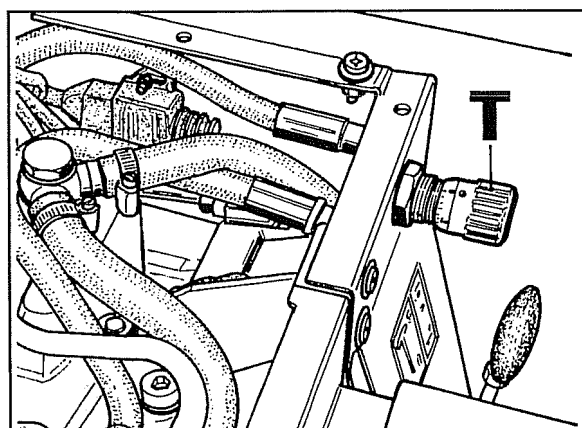
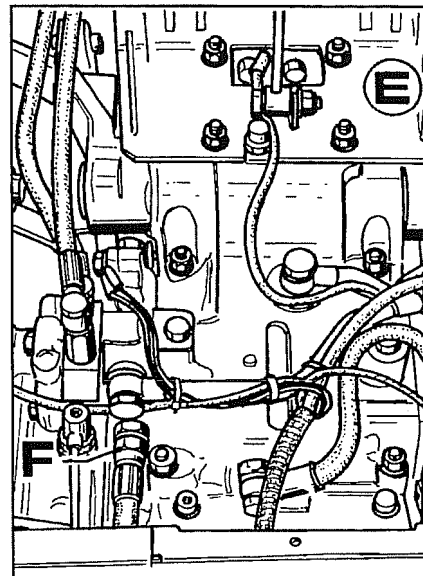

Fig. 9
Fig. 8
4. Remove the seat mounting **E** Fig. 8, disconnect the wires going to the solenoid, the limit switch and the earth cables.
6. Disconnect the hydraulic fluid delivery hose **F** Fig. 8 from the spooling valve mounting and oil delivery valve **T** Fig. 9 to the cylinder.